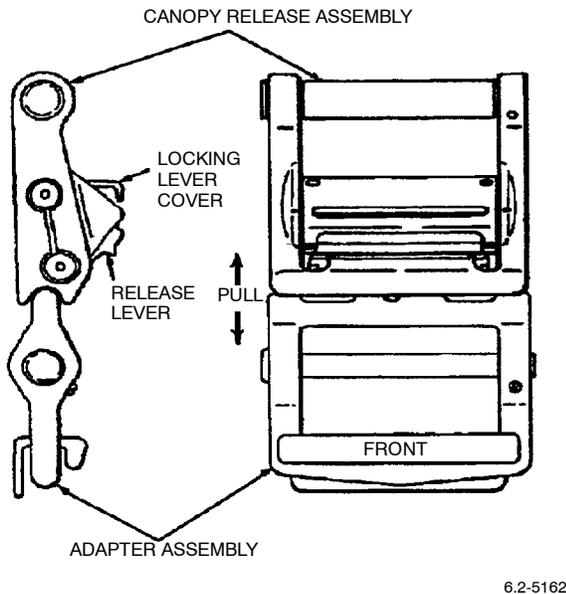

Figure 2. Canopy Release Assembly
(1) Engage male adapter (with trapezoidal notch) with the canopy release assembly (Figure 2).